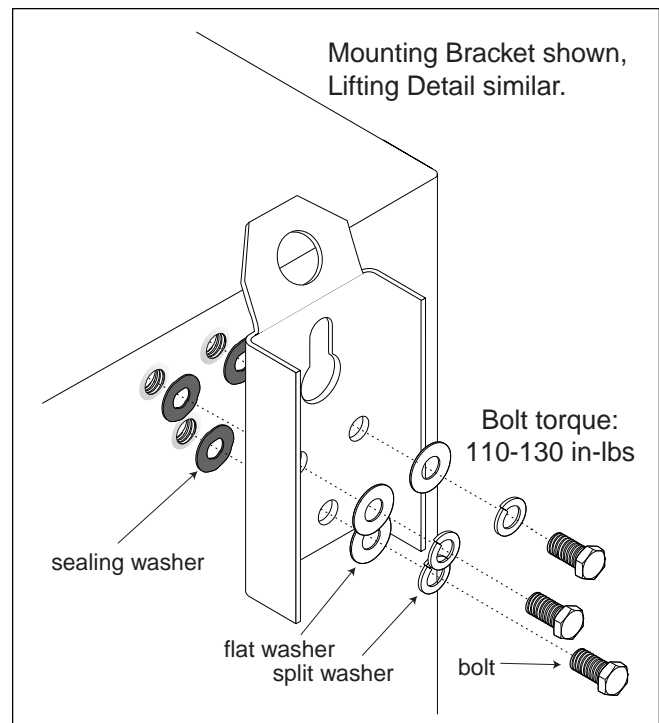

Figure 8. Mounting Bracket Assembly
- Following the illustration in **Figure 8**, attach the lifting details to each side of the cabinet using the bolt and washer groups. Ensure the sealing washers are placed between the cabinet and the lifting details. Tighten bolts to 110-130 in-lbs.